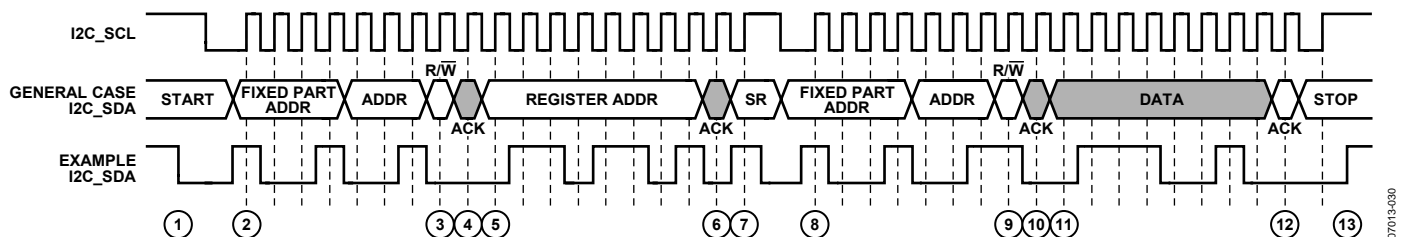

Figure 30. I²C Read Diagram
To read data from the AD8191A register set, an I²C master (such as a microcontroller) needs to send the appropriate control signals to the AD8191A slave device. The signals are controlled by the I²C master, unless otherwise specified. For a diagram of the procedure, see Figure 30. The steps for a read procedure are as follows:
9. Send the read indicator bit (1).
- 13a. Send a stop condition (while holding the I2C_SCL line high, pull the SDA line high) and release control of the bus to end the transaction (shown in Figure 30).